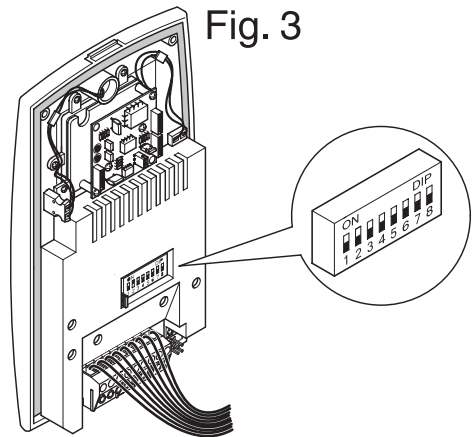

Fig. 4
4. Confirm the function set by inserting jumper JP5 (Fig.4), wait until a confirmation tone sounds, then remove jumper JP5 again.